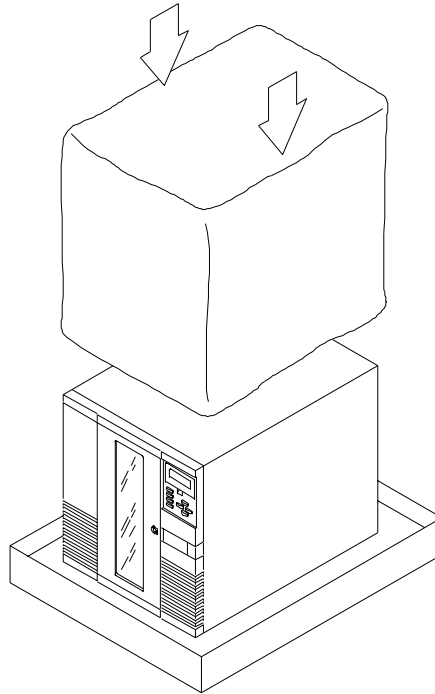

Figure 6-6 Placing the antistatic bag over the library
3. Place the antistatic bag over the library as shown in Figure 6-6.